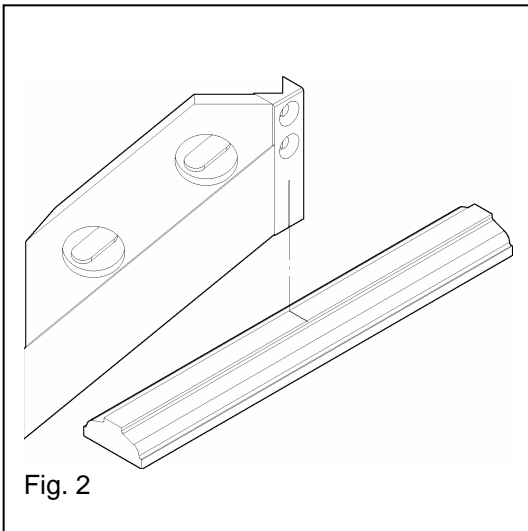

Fig. 2
For setting the flip stop positions a template of the stile (upright section) is made. Mark the centre of the positions on the cross-rails, incl. the top and bottom rails (see fig. 2) on the stile.
2. When a few cuts have been made, align the rail with the set mark and the centre line on the nose knife (see fig. 2). Make a proper cut in the position.